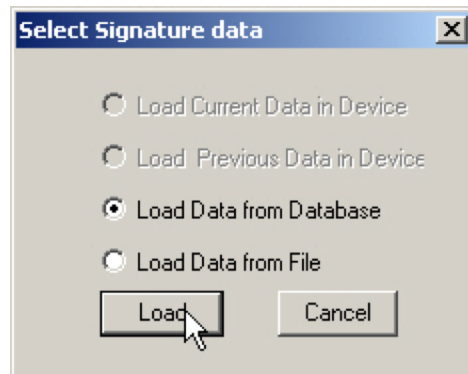

Figure 212 - Selecting Load Data from Database
2. Click **Load** (*Figure 212*).